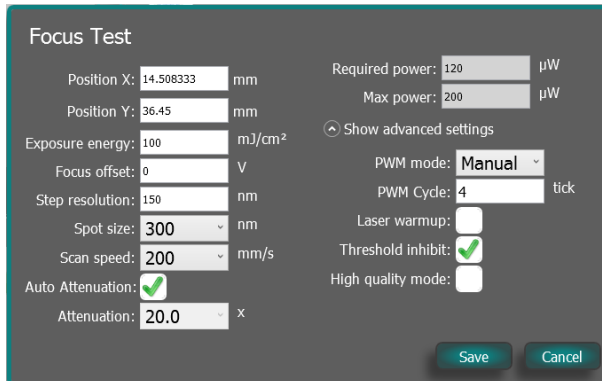

Figure 3-114 Project fine tuning window
1. Press the  button to open the project fine tuning window, see Figure 3-114.